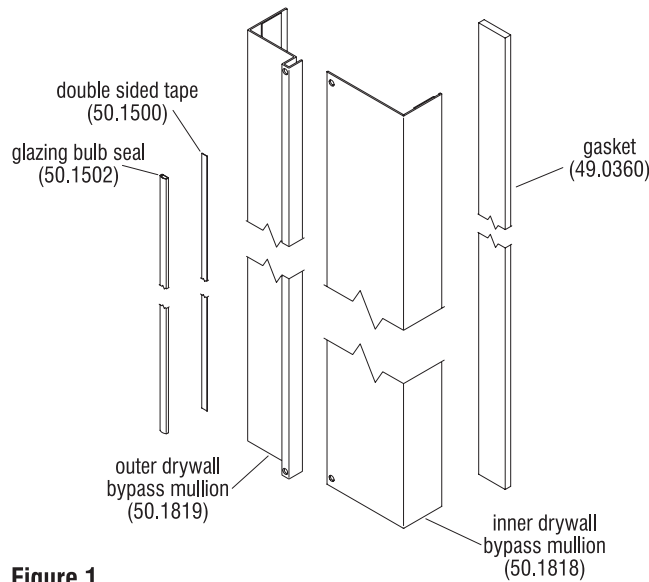

Figure 1
1. Lightline Drywall Bypass Mullion assembly is used to fill the gap between drywall and panel run when the drywall "Ts" into a panel. The mullion ships loose and the parts can be identified in Figure 1.